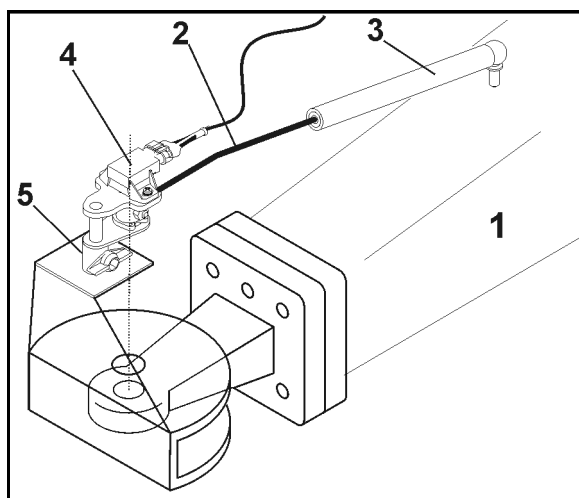

Fig. 35
AutoTrail tracking control for automatic, virtually 100% precise tracking captures the position of the angle of the drawbar (Fig. 35/1) to determine the direction of travel of the tractor.
1. Insert the rod (Fig. 35/2) into the plastic bush (Fig. 35/3) stecken.
2. Insert the position encoder (Fig. 35/4) into the holder (Fig. 35/5).